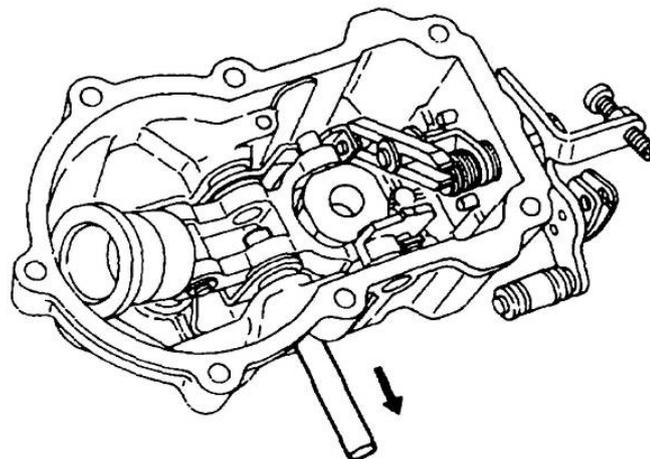

Figure 99 Removal of the Tension Lever Pivot Shaft
- v. Using a suitable punch, remove the two plugs pressed into the sides of the governor cover. Unhook the cancel spring from the tension lever and push the tension lever pivot shaft out through the hole in the side of the governor housing (Figure 99).